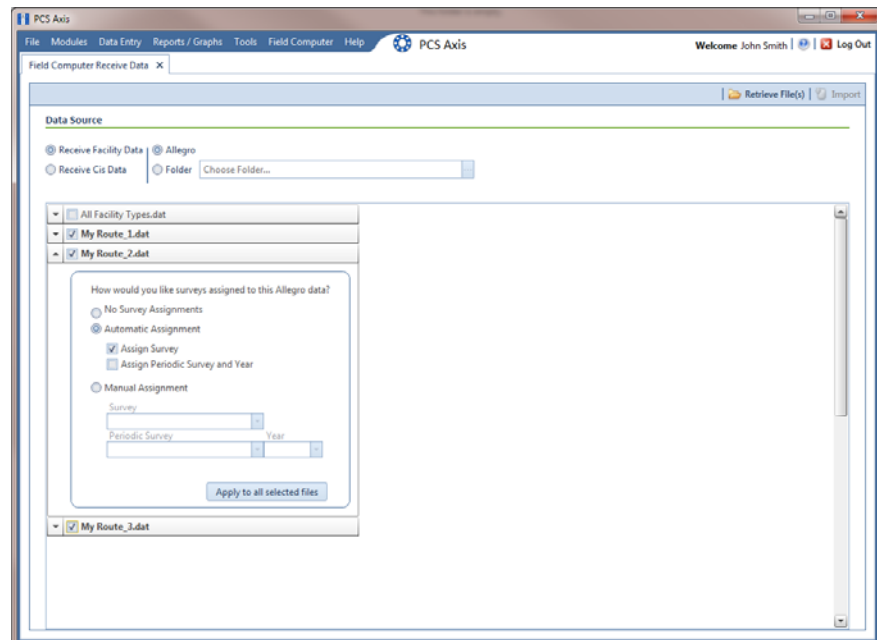

Figure 13-18. Field Computer Receive Data
- 5 Choose survey files you want to transfer from the Allegro. Click the check box for one or more survey files in the list of files available for selection (Figure 13-18, page 579).